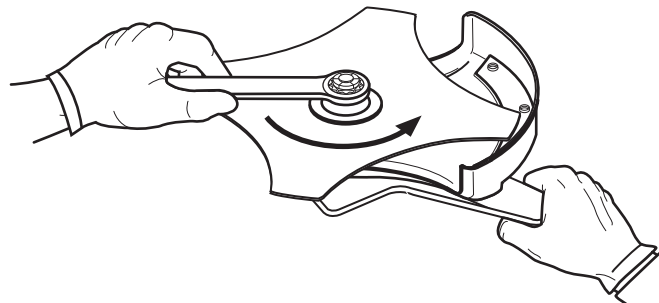

Fig. 16
7. Tighten the nut counterclockwise with a wrench (Fig. 16):